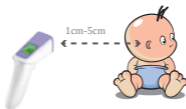

Figure 3: Align behind the ears to measurement
- If for some reason the forehead temperature measurement is low, try measurement behind the ears. See figure 3.